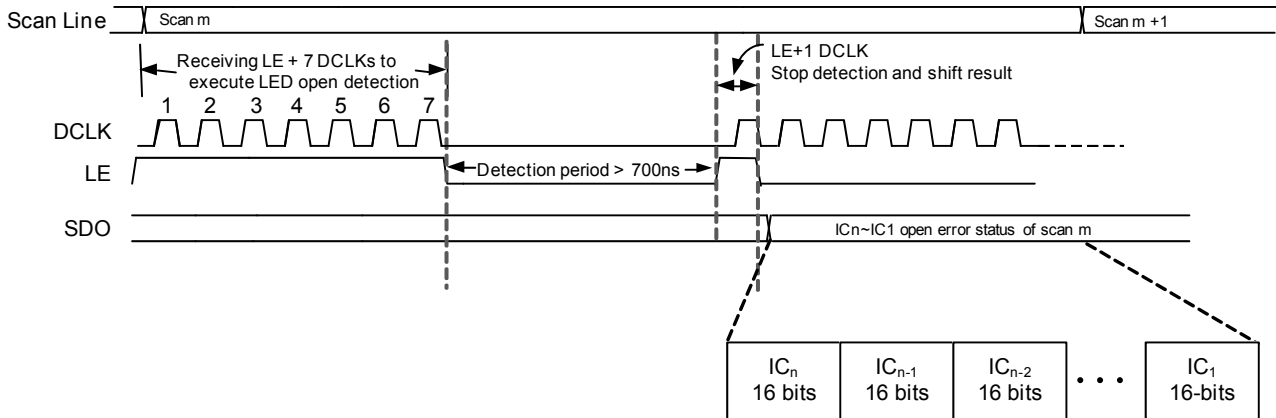

Figure 12. The timing diagram of compulsory open-circuit detection
As figure 12 shows, MBI5152 executes the compulsory open-circuit detection while the LE high pulse is sampled by 7-DCLK rising edges. In the duration of compulsory open circuit detection, all the output channels will be turned off.
1. During the detection, the frame cannot display normal until LE arrested 1-DCLK rising edge. The duration should be keep longer than 700ns, as figure 12 shows.